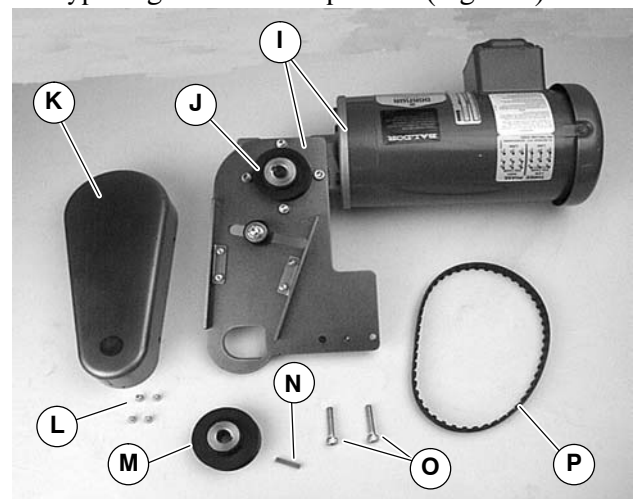

Figure 4
### 1. Typical gearmotor components (Figure 4)
**NOTE:** Flat belt mounting package shown above (Figure 4), cleated belt mounting package similar.